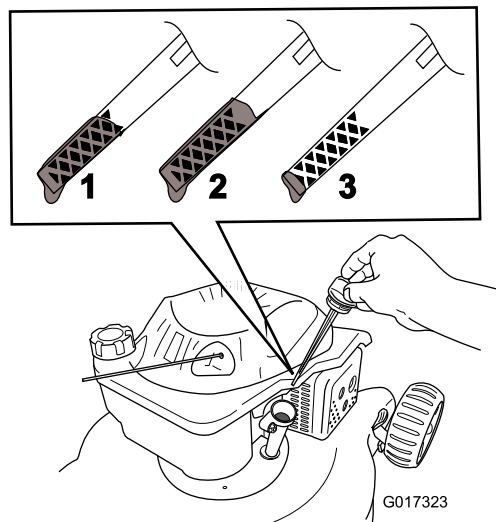

Figure 15
2. Remove the dipstick (Figure 15).
5. Read the oil level on the dipstick (Figure 15).